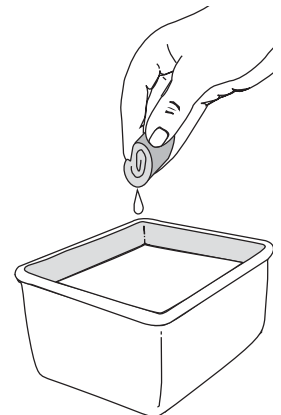

Fig. 27
3. Wash the filter in detergent and water (Fig. 27). Rinse the filter thoroughly. Squeeze out excess water. Allow it to dry completely.